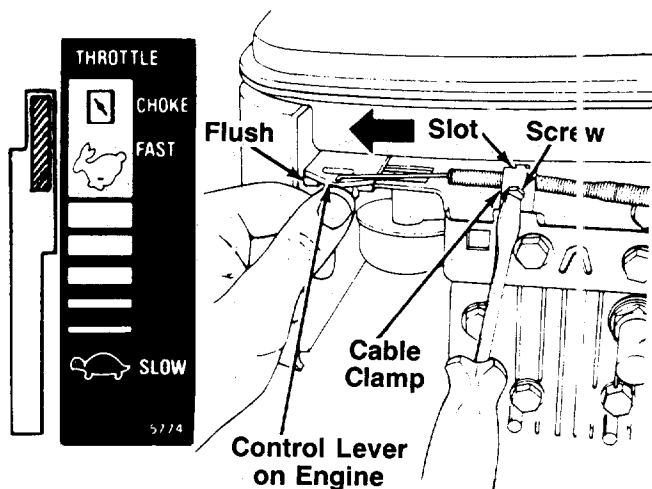

FIGURE 5.
1. Push the throttle control lever on the handle all the way forward to **CHOKE** position. See figure 5.
2. The throttle control cable is attached to the upper handle. Route the throttle control cable under the lower handle and inside the handle mounting bracket. Hook the "Z" end of the throttle control cable into the hole in the control lever on the engine. See figure 5.
3. Using a 5/16" wrench or nutdriver, remove the screw on the cable clamp shown in figure 5. Slip the control cable under the clamp. Replace the screw (cable should be above the screw), but do not tighten (cable must still move freely beneath the clamp). Make certain the tab on the cable clamp is seated into the slot on the engine.
4. Push the control lever on the engine as far toward the **outside** of the engine as it will go. The edge of the control lever should be flush with the bracket on the engine. See figure 5. Hold the control lever in this position as you tighten the screw on the cable clamp to secure the throttle cable.